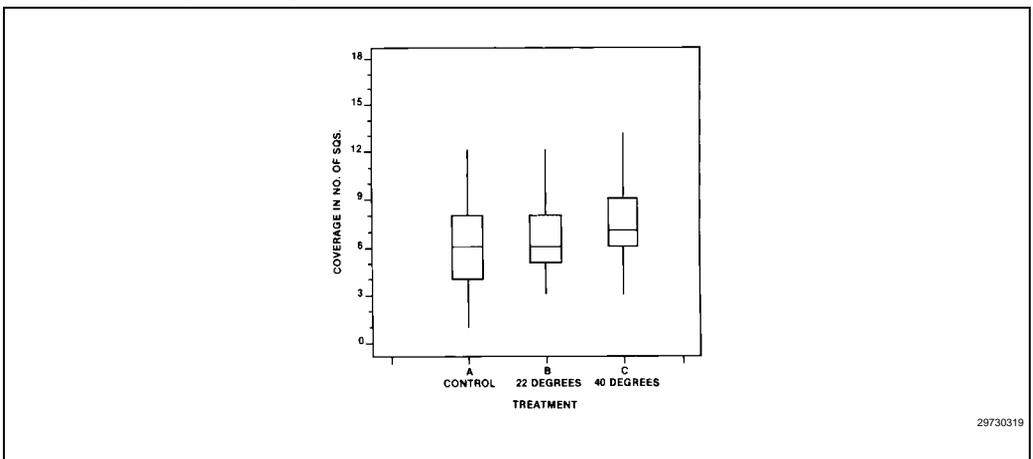

Figure 7-11. Solder Coverage versus Temperature
- Because components are baked in the shipping containers at the 40 °C bake—tubes, trays, or tape and reel—possible outgassing products as well as intermetallic formation impact on solderability were evaluated. Figure 7-11 is a “box plot” analysis of solderability measured by coverage of the leads in “number of squares.” There is overlap in the distributions of, 1) the control units stored in metal trays, 2) units stored in plastic shipping containers and, 3) units baked in plastic shipping containers, therefore, there is no statistical difference between the treatments. No difference in solderability was observed after multiple rebakes at low temperature. Based on this data, there is no restriction on the number of times devices can be rebaked at the recommended low temperature before solderability is degraded beyond acceptable limits.